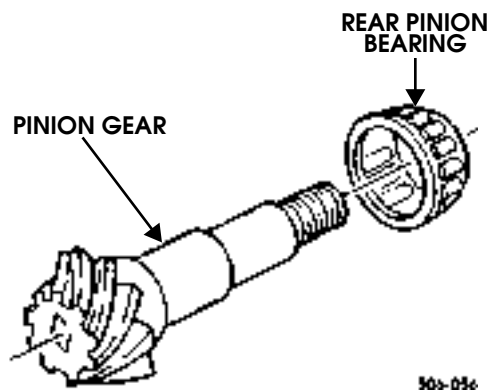

Figure 9-83: Pinion Rear Bearing and Pinion Gear Installation
- Install rear pinion bearing on pinion gear (Figure 9-83).